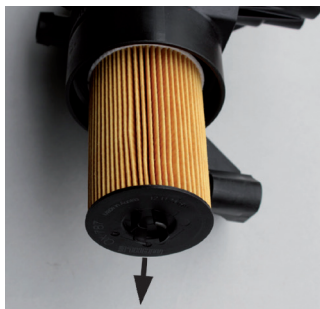

Figure 6
- Replace the oil filter insert OX 787D (Figures 6 & 7).